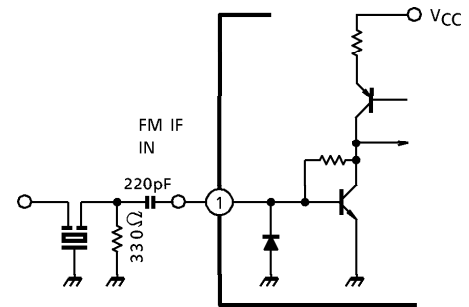

Fig.1
(1) FM-IF input stage
The terminal pin① is the FM-IF input terminal which is the base of common-emitter transistor. (Fig.1)
(2) FM-IF stage